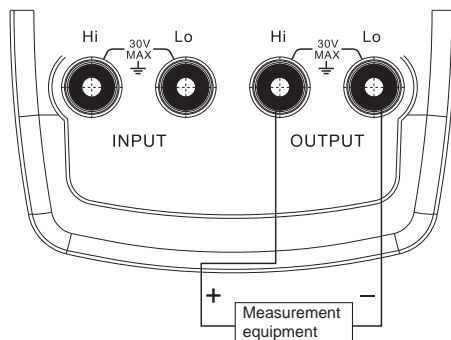

Figure 3
6. Insert the test leads to the OUPUT terminals as figure 3.